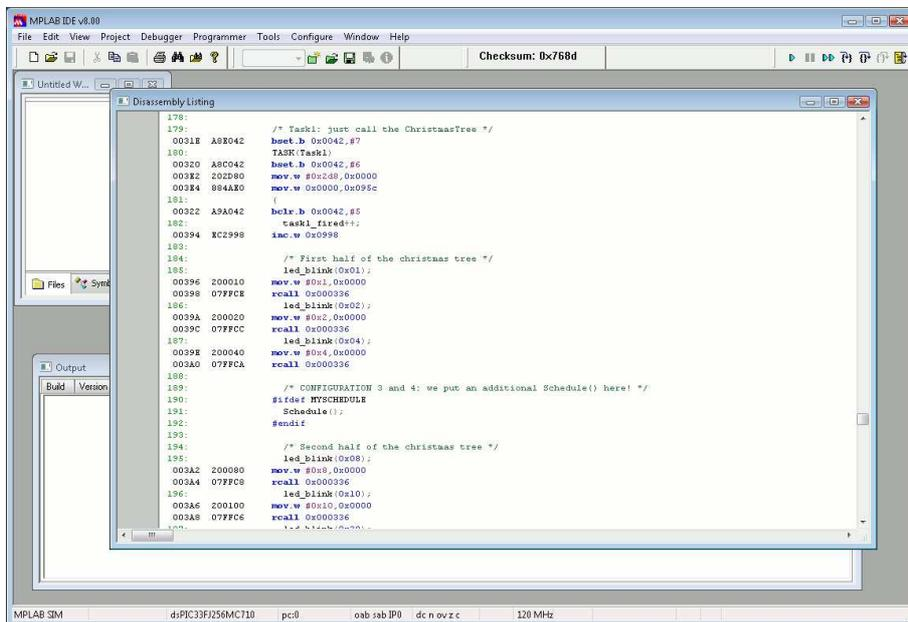

Figure 5.11: Debug symbols are correctly recognized.
- You have now imported the COFF file inside MPLAB IDE. There is no need to create a MPLAB IDE Project, because the compilation process is handled by Eclipse. Figure 5.11 shows the "Disassembly Listing" and the "Program Memory" window. Please note that MPLAB IDE correctly recognizes the debug symbols of the source code produced inside Eclipse.